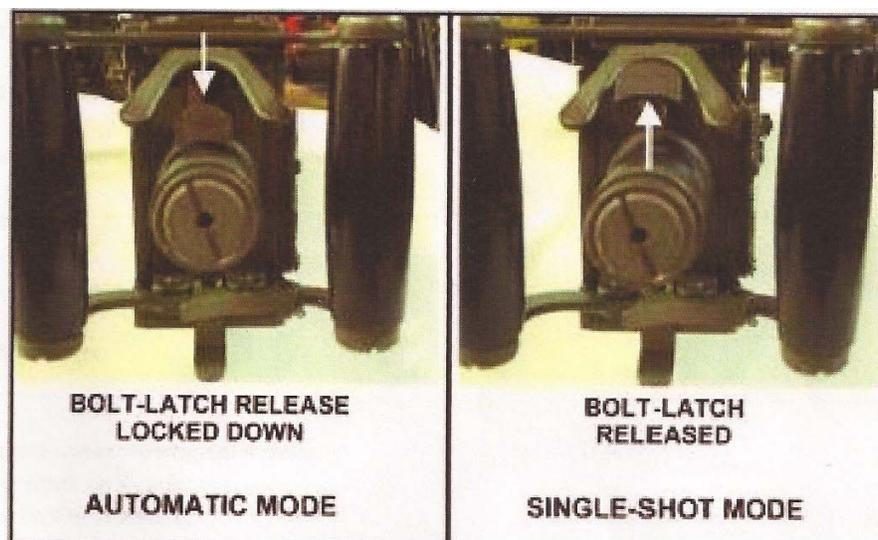

Figure 1. Firing Mode
- a. Ensure weapon is in the single-shot mode (Figure 1).